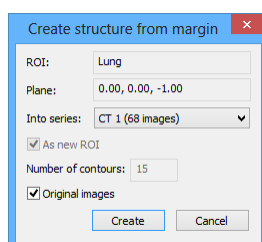

Figure 258 – Create structure from margin dialog
- To create a new ROI from the generated margin, click the **Make new ROI...** button. The **Create structure from margin** dialog (see Figure 258) is then displayed in which you proceed as follows: